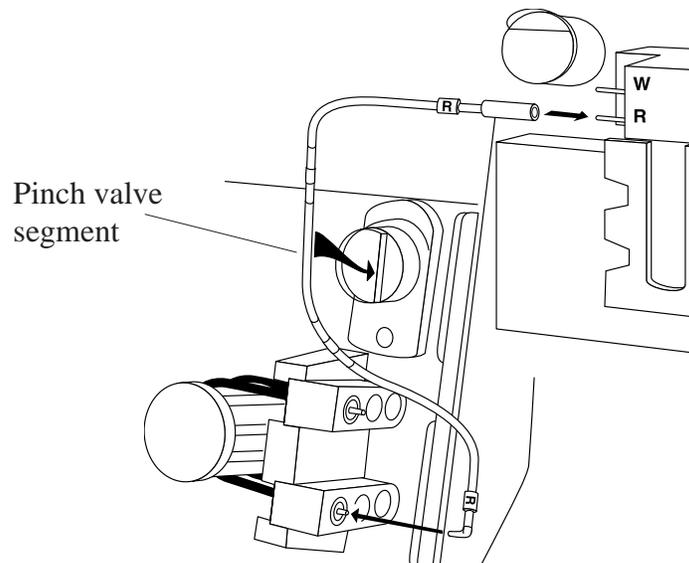

Figure 4.11 Connecting the R-line
5. Connect the line to the R-labelled outlet of the reference electrode and the outside of the bottom pump manifold. (See Figure 4.11.)